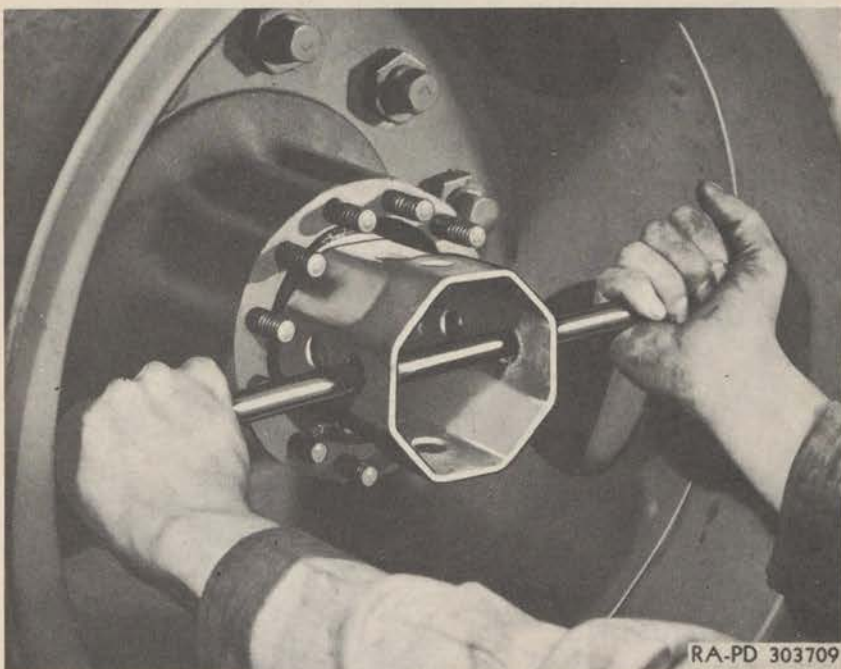

Figure 139—Removing Rear Wheel Bearing Lock Nut
(3) **REMOVE OUTER WHEEL BEARING CONE.** Using the wheel bearing wrench provided with the vehicle tool kit, remove the wheel bearing lock nut (fig. 139). Then remove the wheel bearing lock ring.